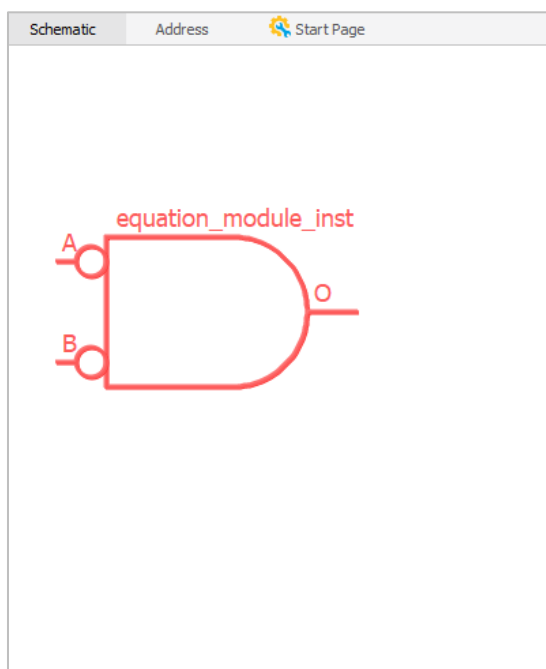

Figure 2.54. Schematic View Shows an Equation Module
3. Click **OK**. The schematic block for the equation module in red appears in the Schematic view (Figure 2.54).